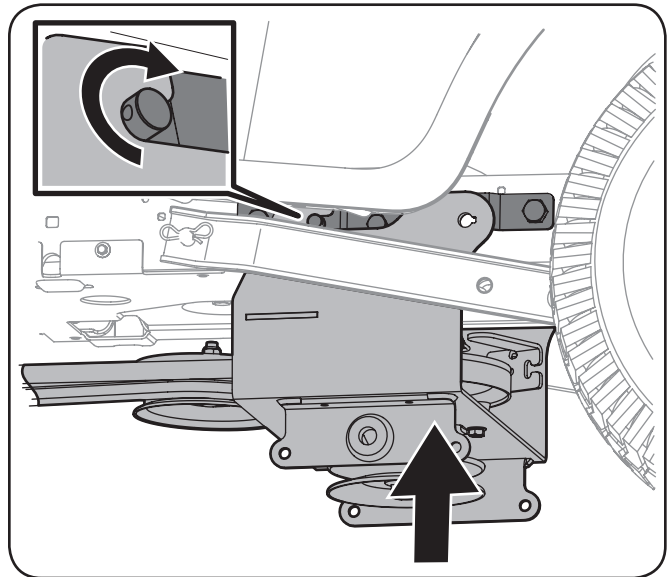

Figure 3-7
7. Carefully raise the carriage up and position the slots on the front of the carriage over the pins on the support brackets. See Figure 3-7.